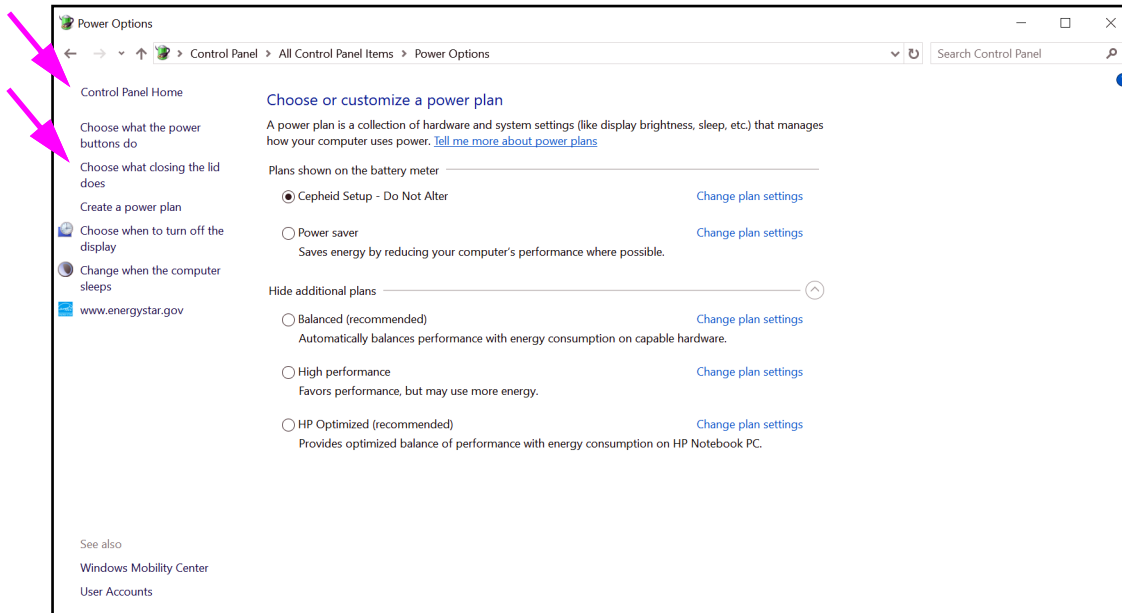

Figure 2-19. Power Options Window
9. Click **Cancel** to close the Edit Plan Settings window. The Power Options window appears (see Figure 2-19).